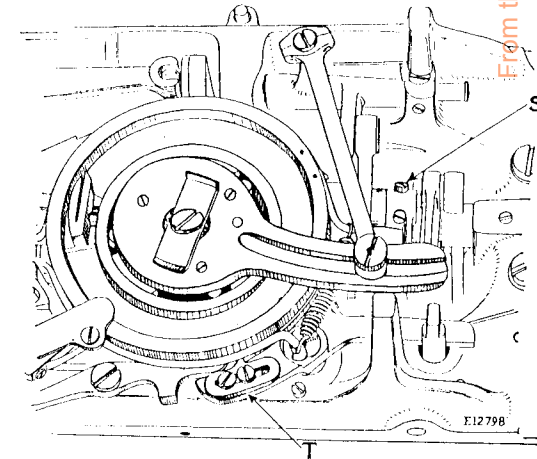

Fig. 21. Showing Shuttle Crank and Feed Wheel Tripping Point
Fig. 20. Showing Shuttle Correctly Timed. When the needle bar is in this position, the point of the shuttle should be at the centre of the needle and the eye of the needle should be about  $\frac{1}{16}$  inch below the point of the shuttle, as shown at R, in Fig. 20. The correct timing of the shuttle is obtained by carefully tightening the upper screw (S, Fig. 21) in the shuttle crank squarely against the flat part of the shuttle shaft and then tighten the other screw.
The feed wheel tripping point (T, Fig. 21) should be set so that the clamp slide finishes its movement to the right before the knife descends to cut the buttonhole. In case the clamp slide does not finish its movement to the right at the correct time, loosen the two set screws which hold the tripping point (T) in position and move the tripping point forward to cause the clamp slide to stop its movement to the right earlier, or backward to stop later. When the feed wheel tripping point is correctly timed, securely tighten its two set screws.